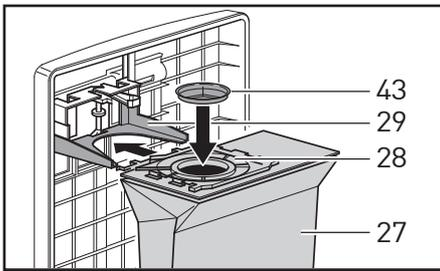

Figure 7
Changing the Dust Bag - Figure 7
| | 2. Bag not inserted properly. | 2. Re-insert bag with cover release flap (5) up, until firmly latched in bag holder (see pg.8, figure 7). |